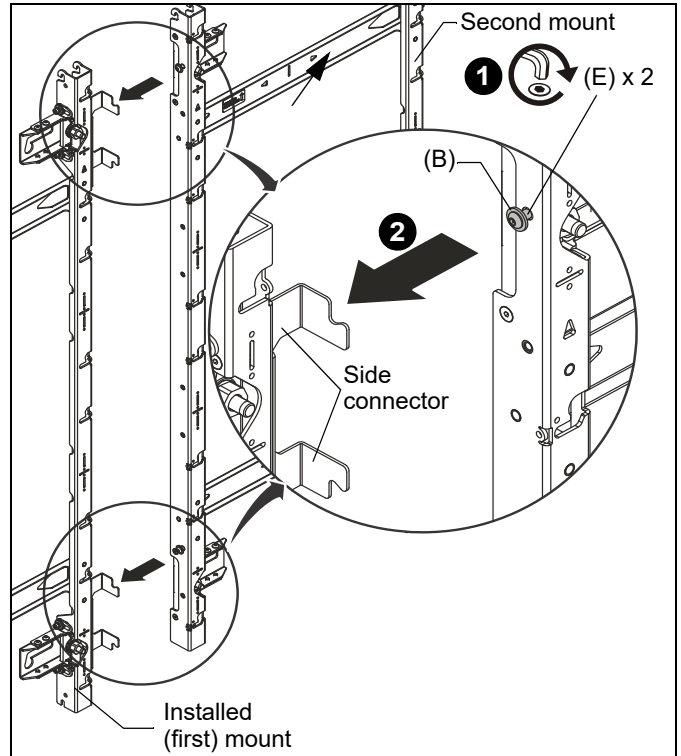

Figure 13
1. Loosely install two 1/4-20 x 1/2" button head cap screws (E) with two 1/4" washers (B) into the second mount (being added to the first mount). (See Figure 13)
2. Hang the mount by the installed screws (installed in Step 1) onto the side connectors on the first mount. (See Figure 13)